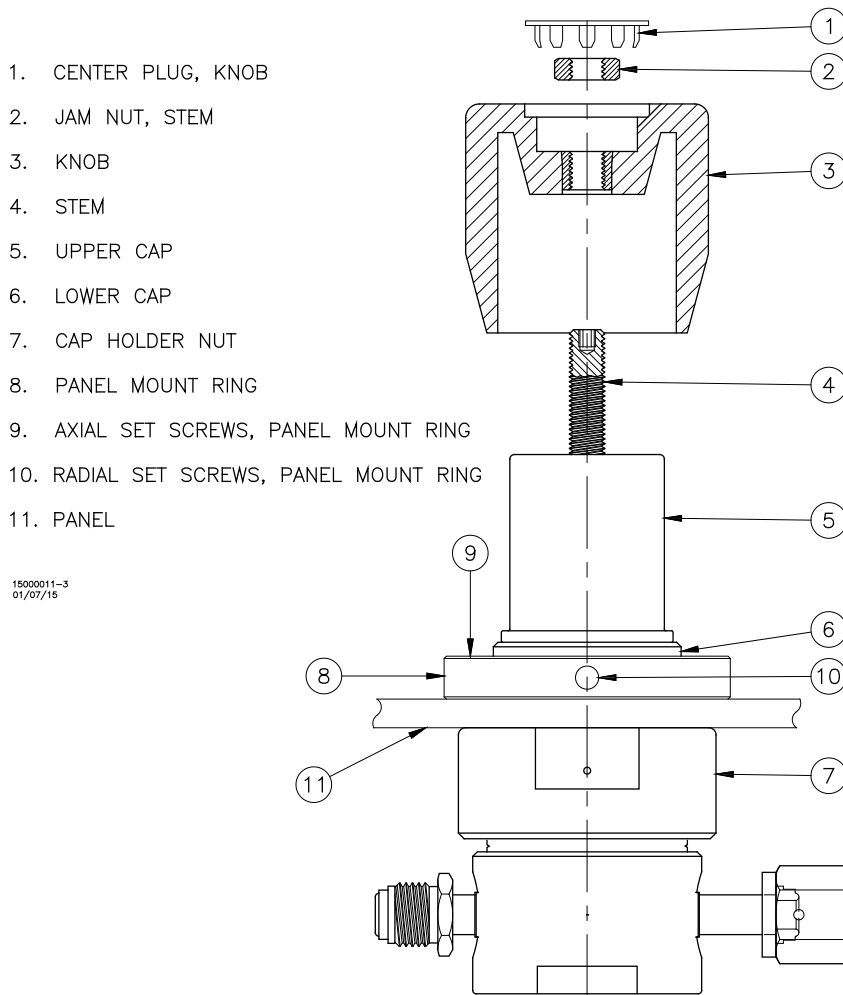

Figure 1. KT9 panel mount installation.
1. KT9 regulator (Refer to Figure 1):